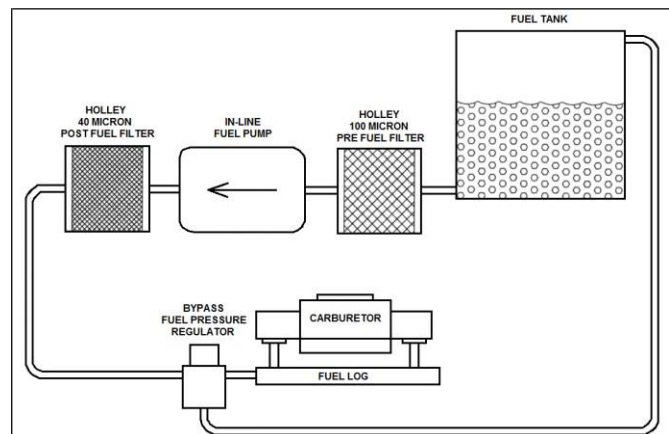

Figure 2
5. Connect the other line per **Figure 2** or **3**.